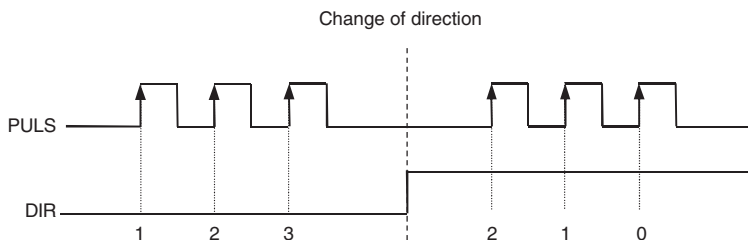

Fig. 1.5.
1) Series of pulses PULSE/DIR (input waveform is shown in figure 1.5): In this case one period of the reference signal PULSE turns the motor shaft by 1/4 of the period of the feedback encoder signal.